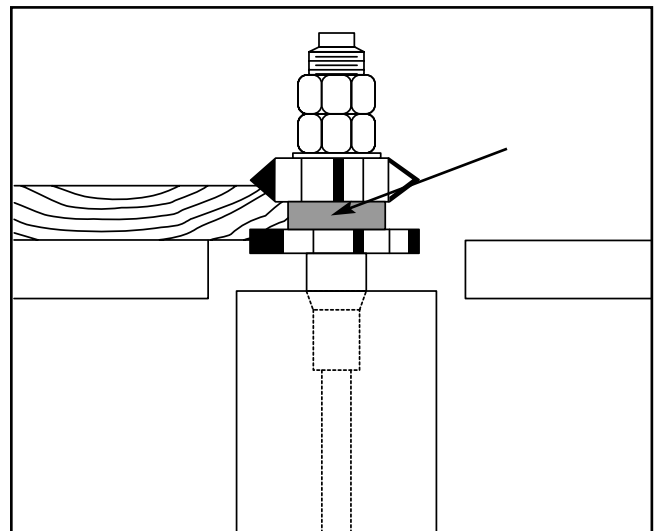

Figure 42. Rub collar between two cutters.
3. **Between two cutters:** Using a rub collar between two cutters, as in **Figure 42**, has the distinct advantage of performing two cuts at once or eliminating the need to change cutters for two different operations. Notice that part of the edge is left uncut. The uncut portion rides on the rub collar.